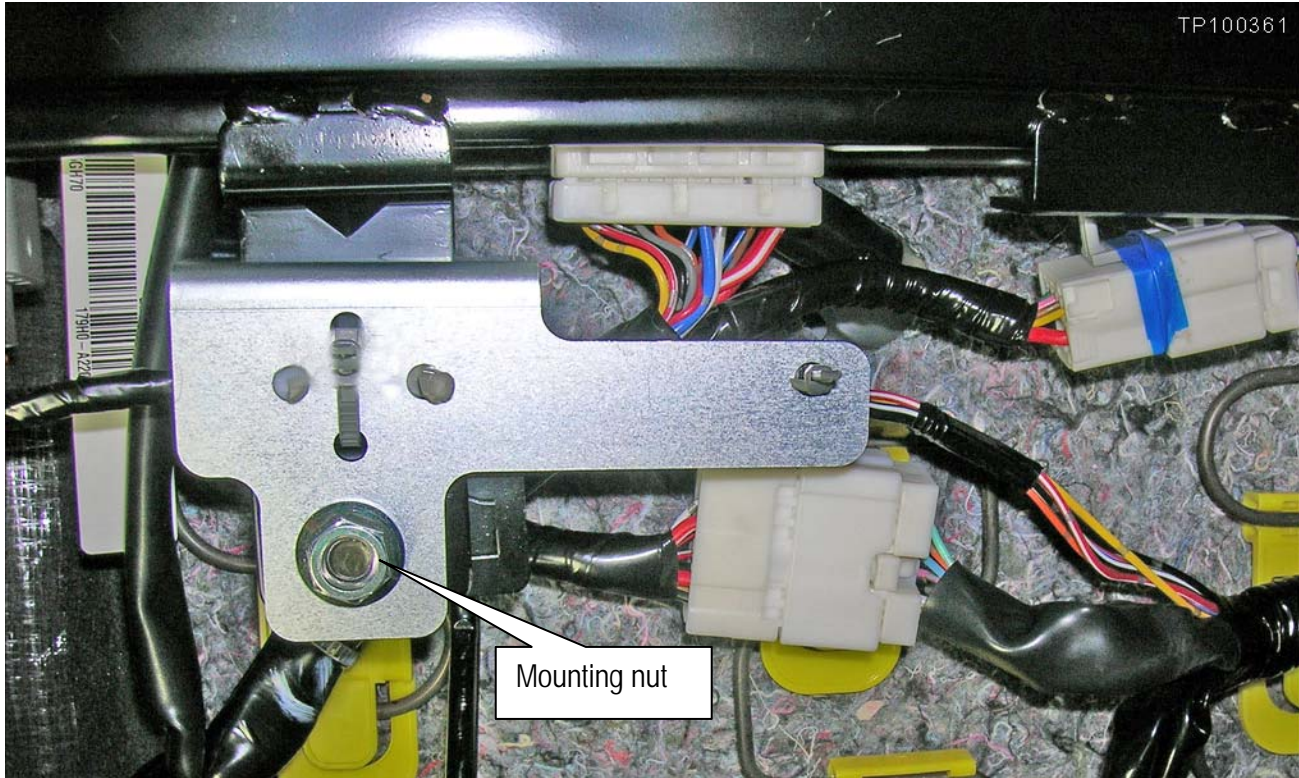

Figure 6d
9. Flip the new bracket over and mount it as shown in Figure 6d.